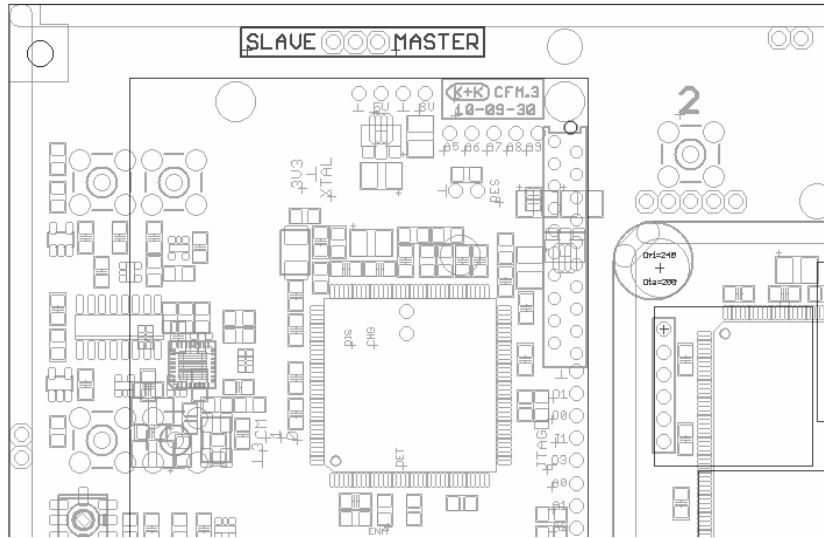

Fig. 2: Position of Master/Slave Jumper
1. All clock or frequency inputs which are to be supplied with user-generated signals, are equipped with an input circuit similar to the one given in Fig. 2 . This applies to the 10 MHz clock input as well as to the channel 1...4 F_x inputs. We recommend square wave signals with 1...5V level as input signals.